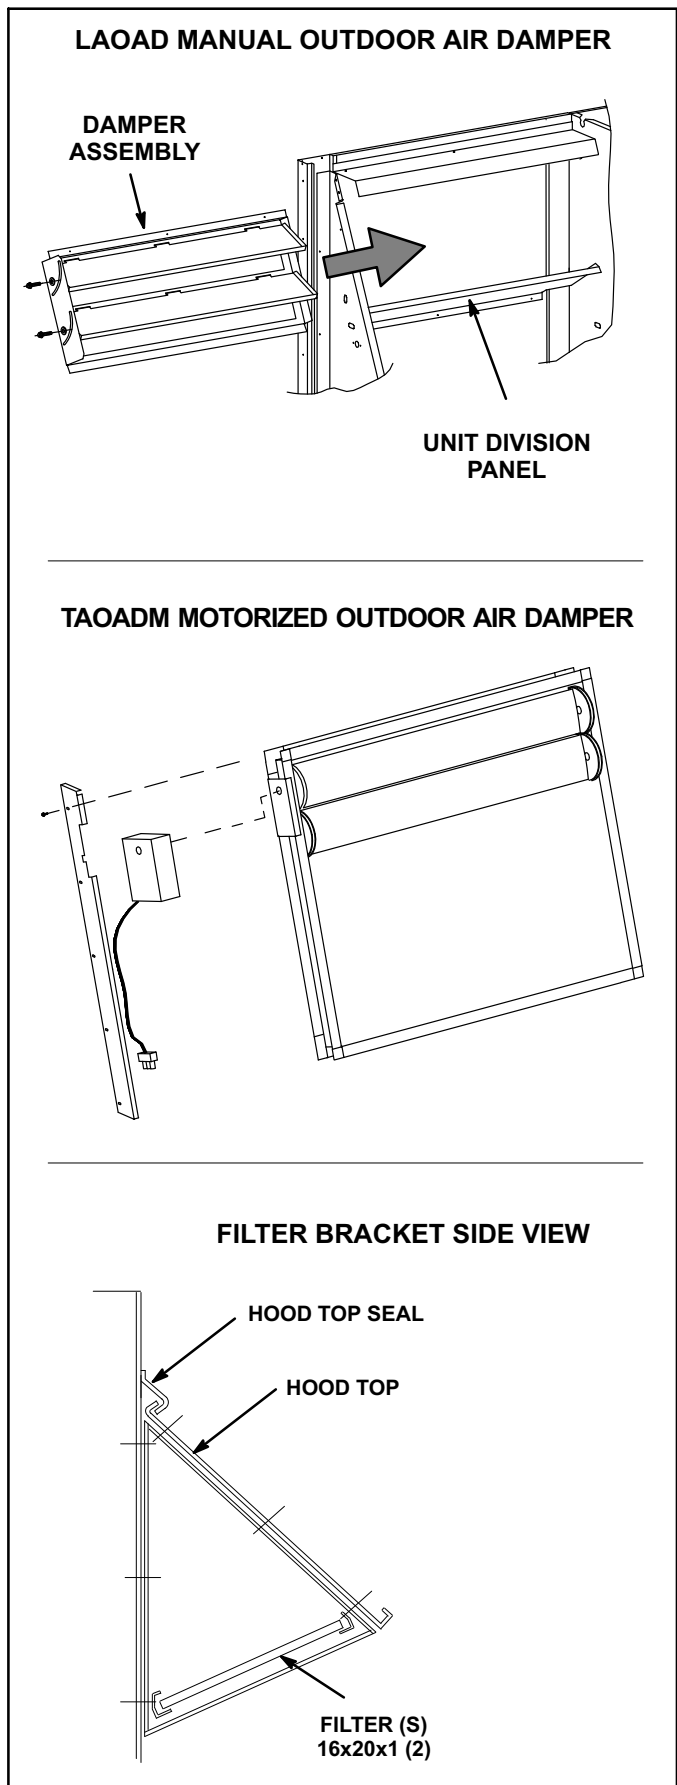

FIGURE 19
TAOADM and LAOAD10/15 consists of dampers which may be manually or motor (M) operated to allow up to 25 percent outside air into the system at all times (see figure 19). Washable filters supplied with the outdoor air dampers can be cleaned with water and a mild detergent. It should be sprayed with Filter Handicoater when dry prior to reinstallation. Filter Handicoater is R.P. Products coating no. 418.